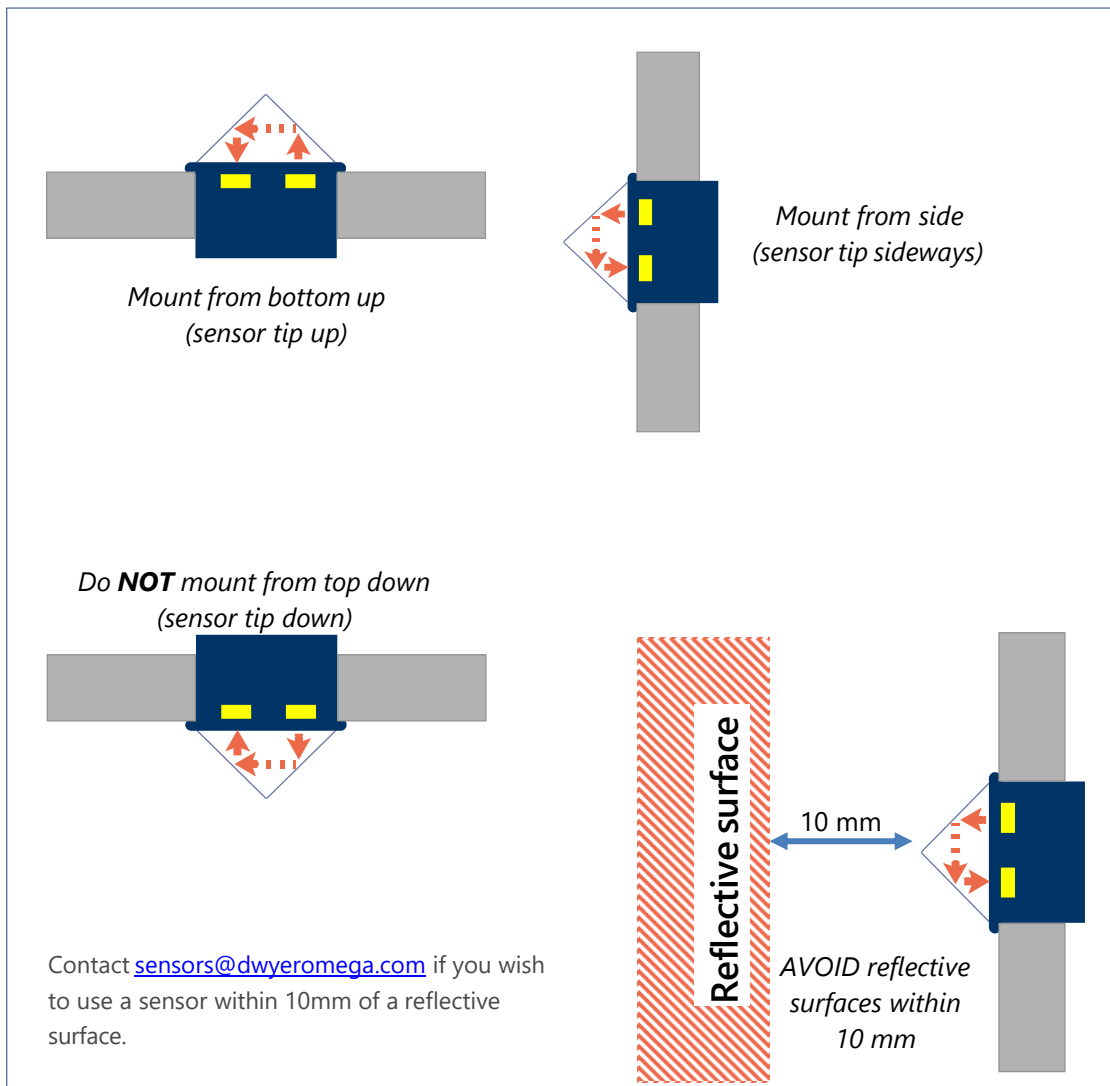

Figure 5. LLIS mounting and orientation
2. Mount your LLIS to your process by rotating the process connection clockwise into your vessel at the sample connection. Ensure the sensor tip is facing either upwards or sideways dependent on your application, as shown in Figure 5 on the previous page.